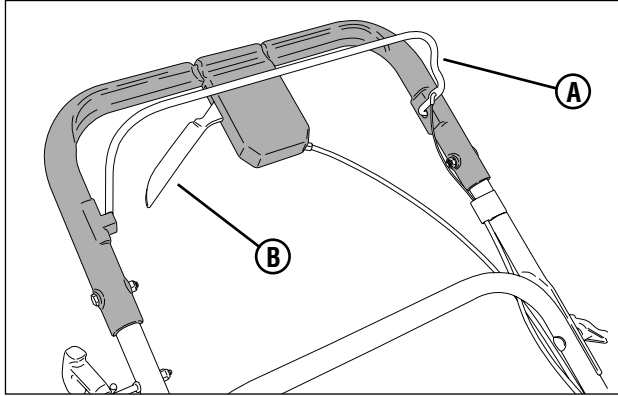

Figure 1: Mower controls
2. Check the blade control (**A, Figure 1**) and wheel drive control (**B**) to insure they work freely.